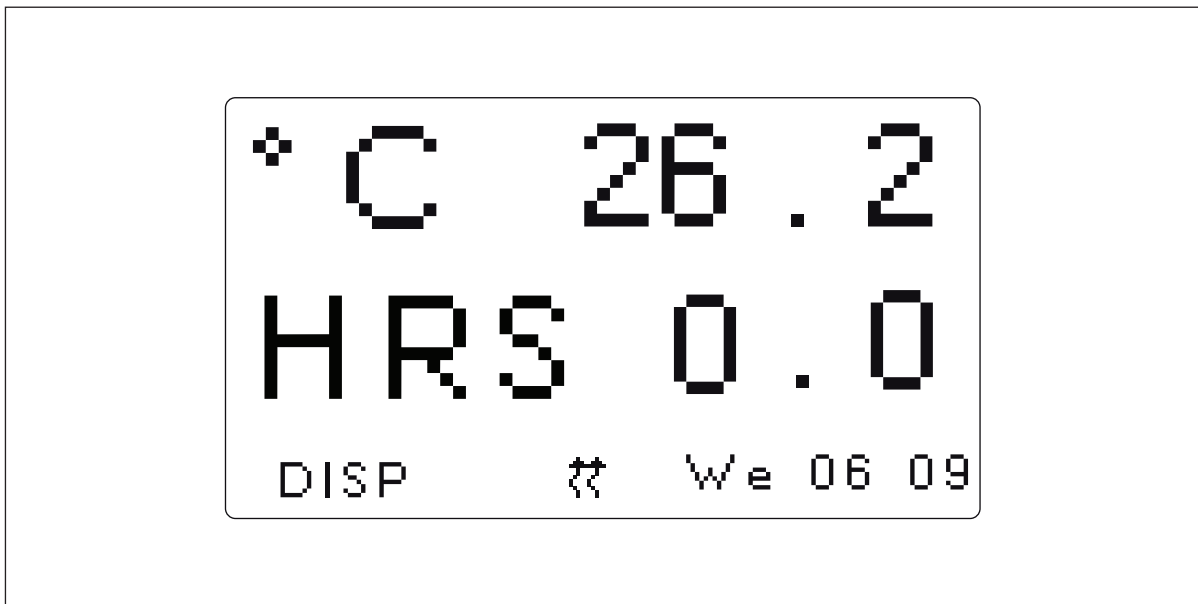

Fig. 5-3: Changed Display Parameter
4. Click the Control Knob in, to set and save the parameter (see Fig. 5-3 on p. 43).